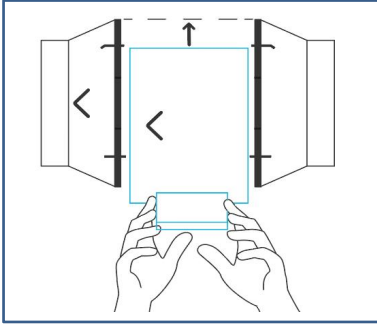

Fig.9.
4、 Slide the motor box back into the flange bracket, making sure its airflow arrow is pointing in the same direction as the flange bracket's arrow. Tighten the metal clamps using a Phillips screwdriver and pliers to secure the motor box. See the (Fig.9.)